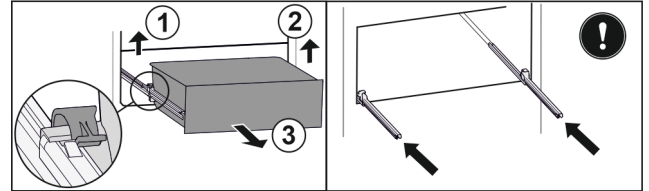

Fig. 191
- ▶ Lift left clamp and simultaneously pull drawer forwards on the left. Fig. 191 (1)
- ▶ Lift right clamp and simultaneously pull drawer forwards on the right. Fig. 191 (2)
- ▶ Remove drawer to the front. Fig. 191 (3)